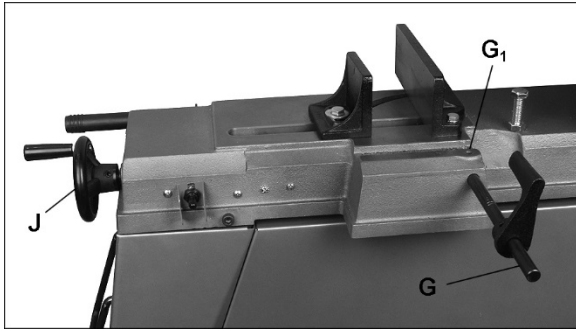

Figure 5
2. Install handwheel (J, Figure 5) onto vise lead screw, and tighten set screw.
3. Install workstop rod (G) into hole and tighten set screw (G₁). Slide work stop on rod and secure with set screw.